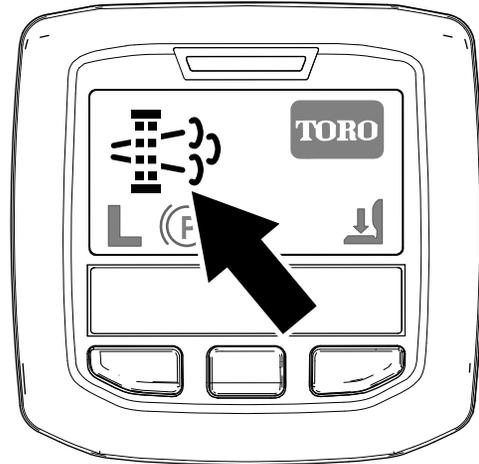

Figure 39
- The parked-regeneration requested icon displays in the InfoCenter (Figure 39).